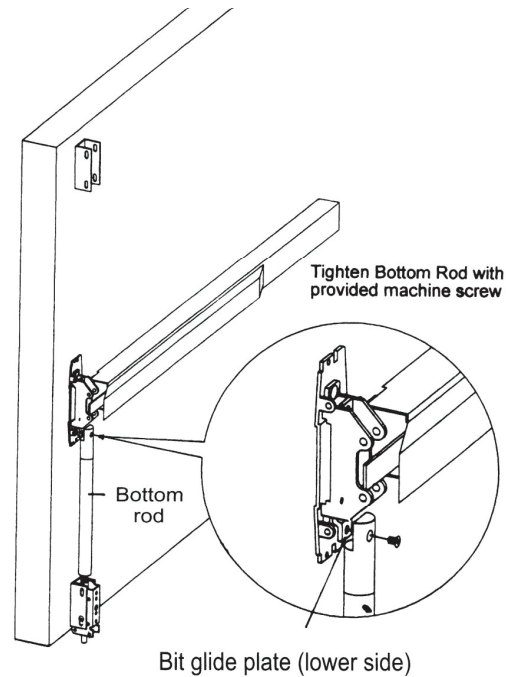

Figure 6
- d. Tighten bottom rod with bit glide plate in bottom position. (See Figure 6.)